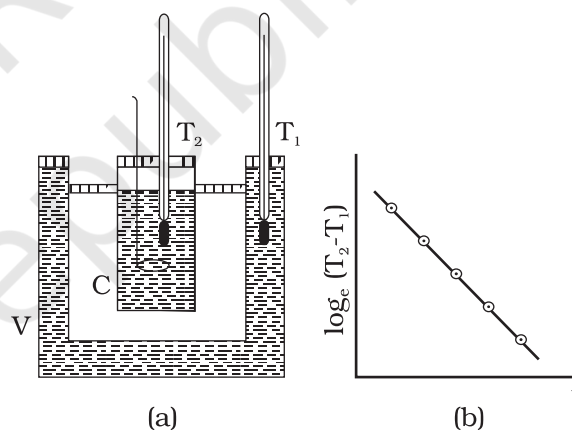

Fig. 10.20 Verification of Newton's Law of cooling.
Newton's law of cooling can be verified with the help of the experimental set-up shown in Fig. 10.20(a). The set-up consists of a double-walled vessel (V) containing water between the two walls. A copper calorimeter (C) containing hot water is placed inside the double-walled vessel. Two thermometers through the corks are used to note the temperatures T_2 of water in calorimeter and T_1 of hot water in between the double walls, respectively. Temperature of hot water in the calorimeter is noted after equal intervals of time. A graph is plotted between $\log_e (T_2 - T_1)$ [or $\ln(T_2 - T_1)$] and time (t). The nature of the
graph is observed to be a straight line having a negative slope as shown in Fig. 10.20(b). This is in support of Eq. 10.22.